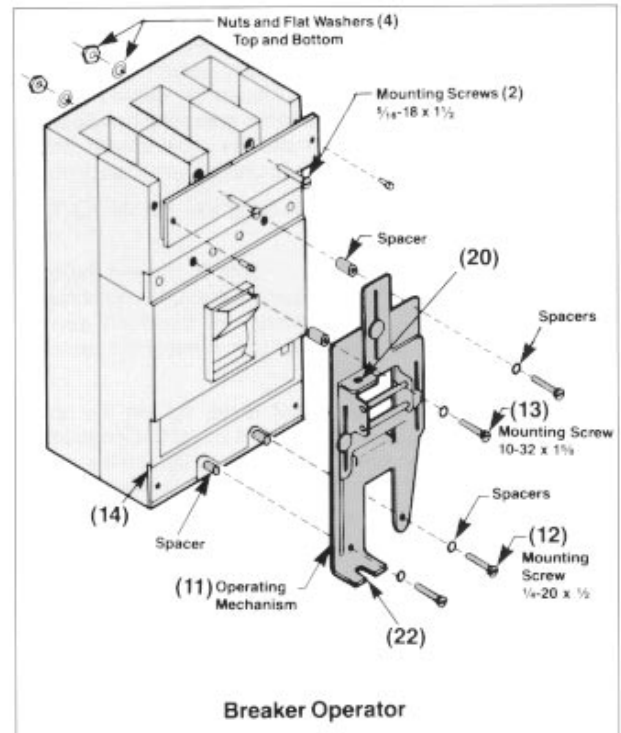

Figure 5
- A. The breaker operator (11) is mounted to the circuit breaker using the same two lower screws (12) that are used to attach the breaker to the enclosure. In addition, two #10-32 x 15/s in. screws (13) and spacers are used at the top and two 1/4-20 X 1/2 in. screws (12) and spacers are used at the bottom (Figure 5).
- B. Remove the lower terminal shield (14) from the circuit breaker and punch and drill out the two .56 in. diameter knockouts .
- C. Cut slots in terminal shield as shown in Figure 5, to allow access to terminal lugs after installation of breaker operator.
- D. Mount circuit breaker to the enclosed panel using the four breaker mounting screws as shown in Figure 5.
- E. Slide the threaded cable rod (19) through the hole in the sliding plate tab (20) of the circuit breaker operating mechanism (Figures 5 and 6).
- G. Place the cable mounting threads (21) into the slot on the fixed plate tab (22) so that the two mounting nuts (23) are on both sides of the tab. Adjust the two mounting nuts so that the #10-32 nut on the cable rod just touches the sliding plate tab. Tighten the mounting nuts to secure the cable (Figures 5 and 6).
- H. Continue holding the operating handle in the ON position and place the spring (24) over the end of the rod. Screw on the spring adjuster (25) and tighten until it begins to compress the spring. DO NOT OVERTIGHTEN THE SPRING ADJUSTMENT NUT